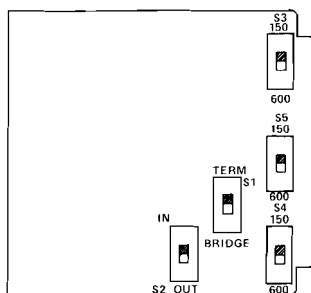

figure 2. Switch locations
3.06 Several option switches must be programmed before the 4012 Program Distribution Amplifier is placed into service. The location of these switches is shown in figure 2, and switch functions are described in table 2.